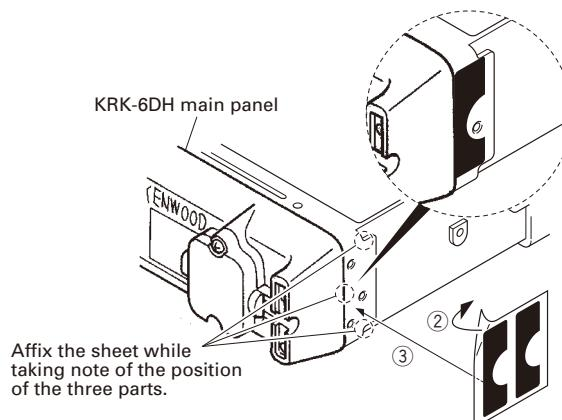

Fig. 3-1-2
4. Affixing the sheet (G11-4379-04) for the waterproof (Fig.3-1-2).
- (1) Remove the covering paper of the sheet ②.
- (2) Affix the sheet while taking note of the position of the three parts as shown in Fig.3-1-2 ③.
- (3) Repeat step (2) to affix the sheet to the other side of chassis.